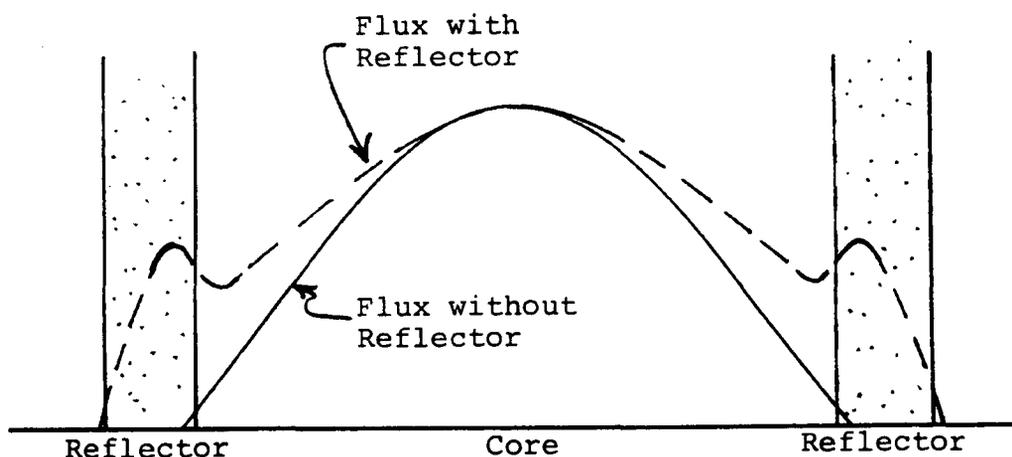

Figure 5
1. The thermal flux is "flattened" radially, ie, the ratio of average flux to maximum flux is increased. This is illustrated in Figure 5. The hump in the curve is due to the fact that fast neutrons escape into the reflector and are thermalized there. They are not as likely to be absorbed there as they are in the core.